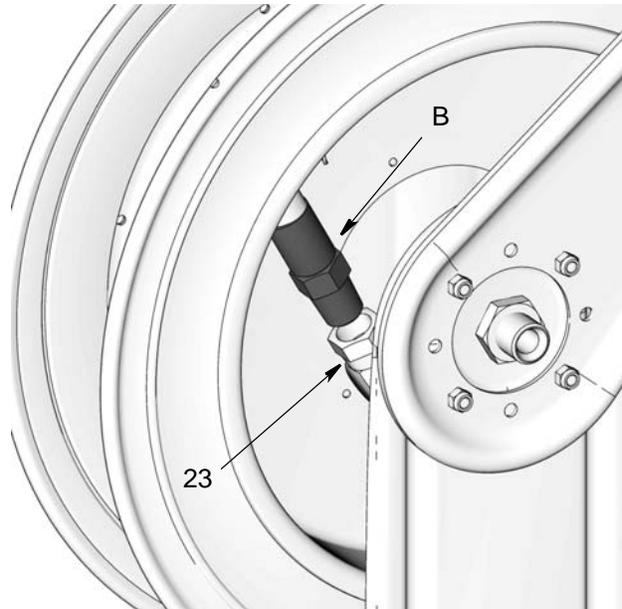

FIG. 10
13. Insert the hose fitting end (B) of hose through the hose guide (31) and connect hose end to the hose reel swivel fitting (23) (FIG. 10). Tighten securely.